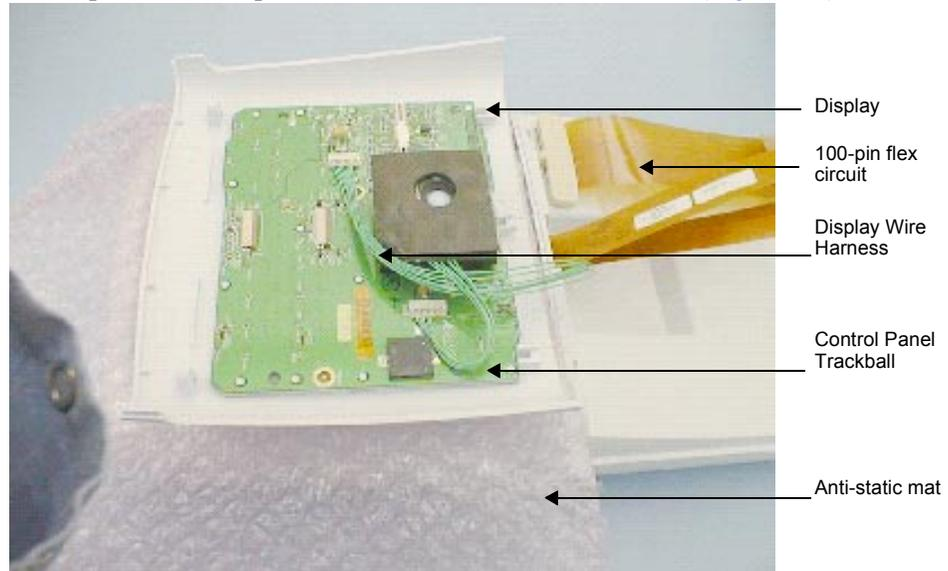

Figure 7.5 Placing the Control Panel onto the Display
5. Replace the 100-pin flex circuit on the bottom module (Figure 7.5).